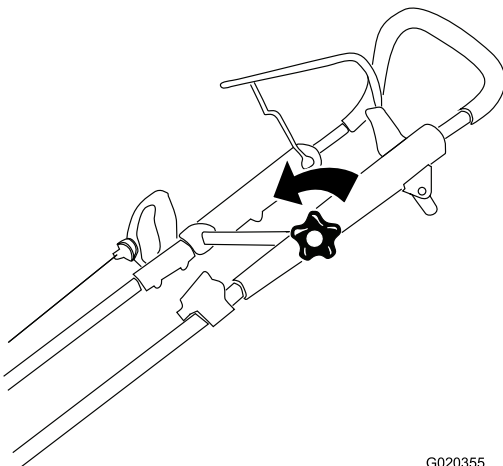

Figure 14
1. Loosen the upper handle knob (Figure 14).